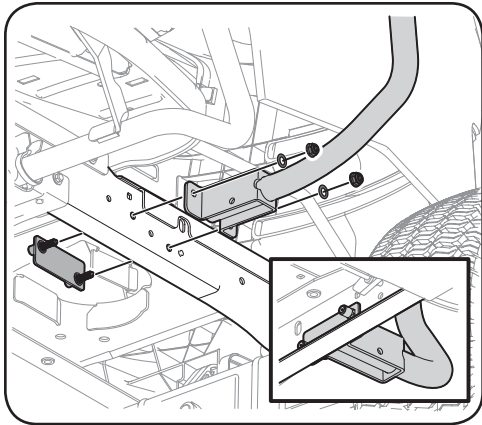

Figure 3-2
- Using two of the flange lock nuts (Ref. part #11) and two of the washers (Ref. part #15) and one of the front canopy mount plates (#8), mount the front left support (#6B) to the frame of the tractor as shown in Figure 3-2.